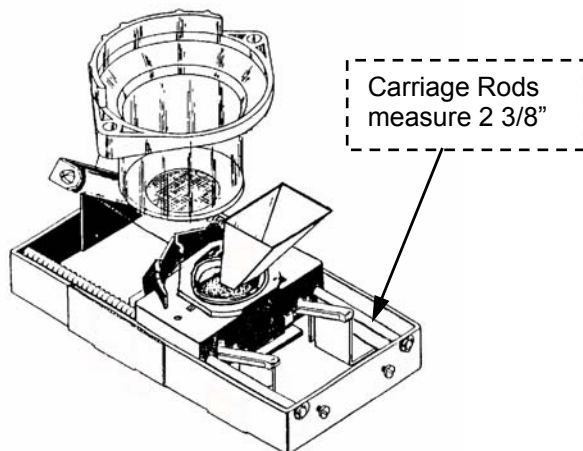

FIGURE 610
- B) In standby, measure the two carriage rods between the front side of the black carriage to beginning of front metal bar (see Figure 610). The two exposed rods should measure 2 3/8 inches. If not, perform following steps:
- b) Upon changing spool setting check measurement at carriage rod and continue this process until 2 3/8 inches is obtained (see Figure 610).